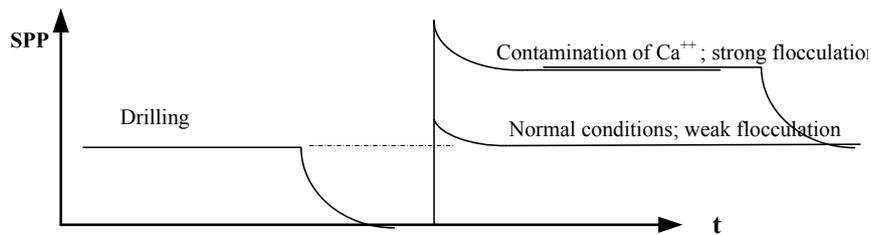

Figure 1-8c: Rheological response at the surface when drilling into contaminants.
- c) The edge-to-face flocculation is weak electrostatic forces and is easily broken when sheared. The  $Ca^{++}$  ion binds two clay platelets in a much stronger grip, and is not easily broken as indicated in Figure 1-8c.